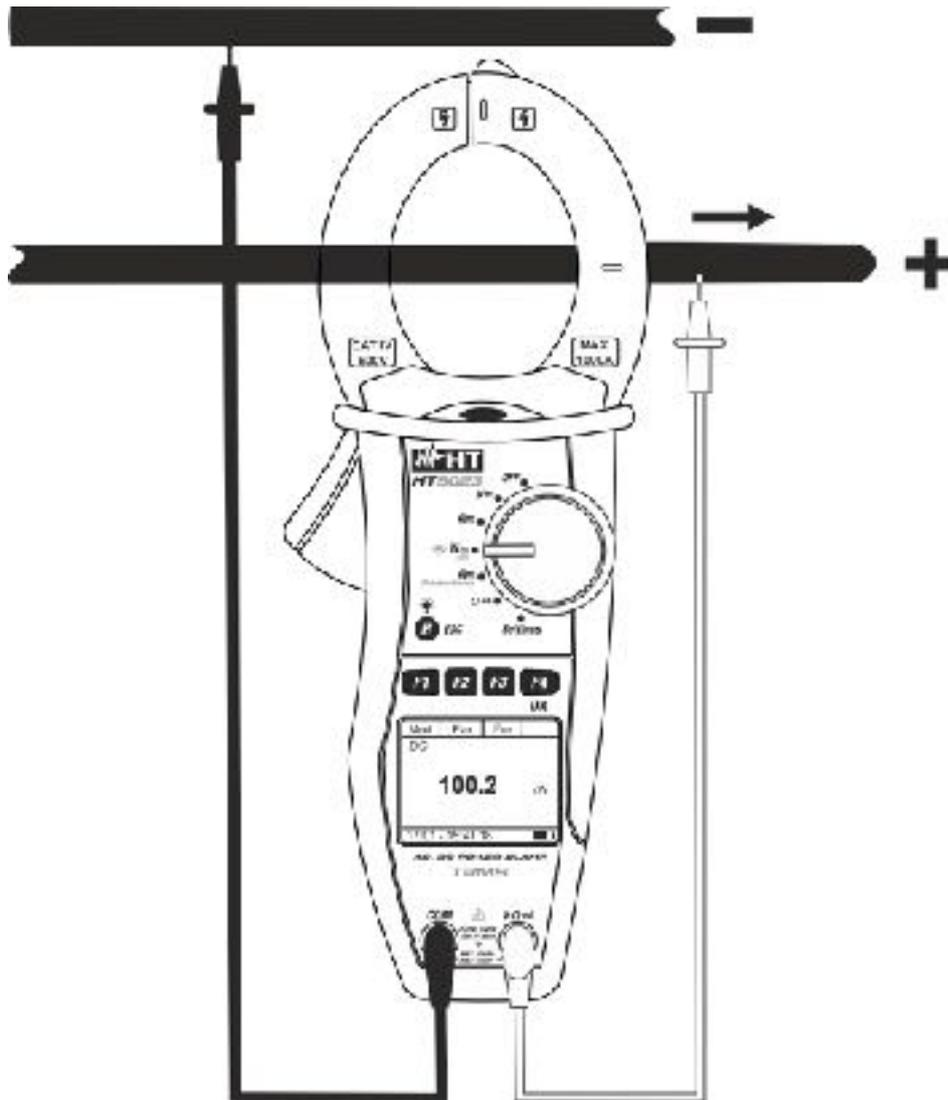

Fig. 12: DC power/energy measurement
- Connect red cable to input lead **VΩ[•]**) and black cable to input lead **COM**. Position red lead to "+" and black lead to "-" then connect "+" cable to the clamp jaws, respecting the direction of current indicated by the arrow (see Fig. 12). Connect the cable to the middle of the clamp jaws, in order to get accurate measurements. Use the marks as a reference (see Fig. 2)
- The value of DC power is displayed expressed in kW. Press **F2 (Par)** to open the drop-down menu shown on the screen aside and select the "Volt/Curr" option for the DC voltage and current measurement. Confirm with **F4 (OK)**. The following screen is displayed: